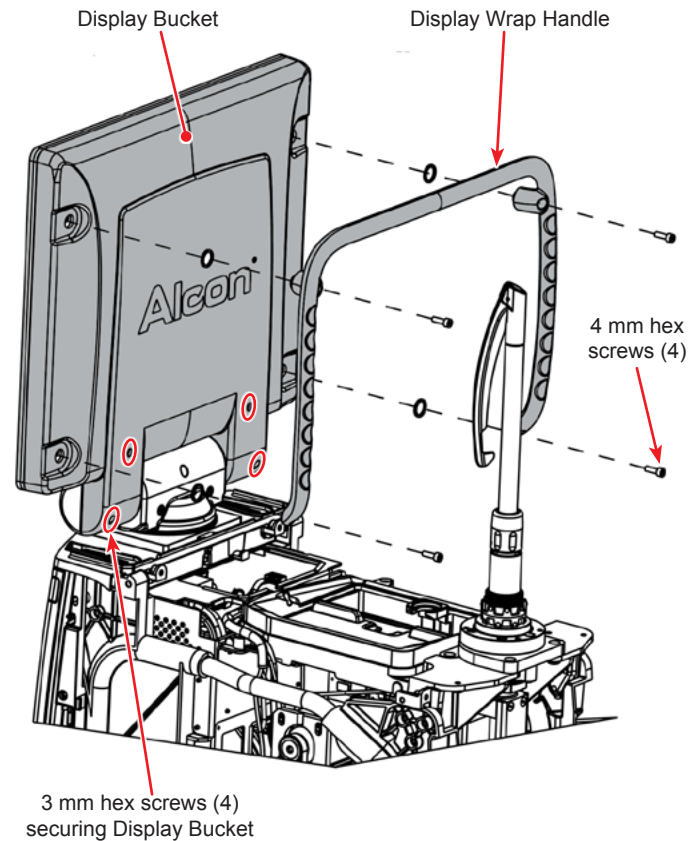

Figure 3-10 Display Wrap Handle and Display Bucket Removal
- 17.1 Remove four 4 mm screws securing Display Wrap Handle to display assembly. Remove Display Wrap Handle from system (see Figure 3-10).